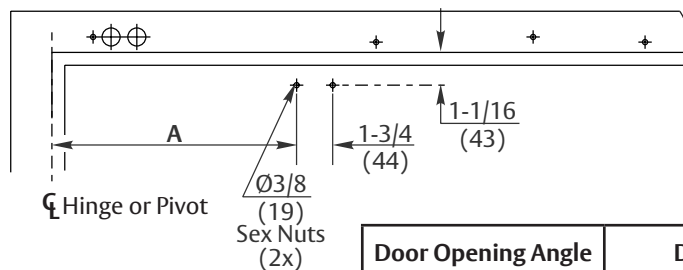

Figure 4 Left Hand Shown
1. Using template on page 15, locate and prepare two (2) 3/8" (9.5mm) holes in door for sex bolts. (Figure 4)